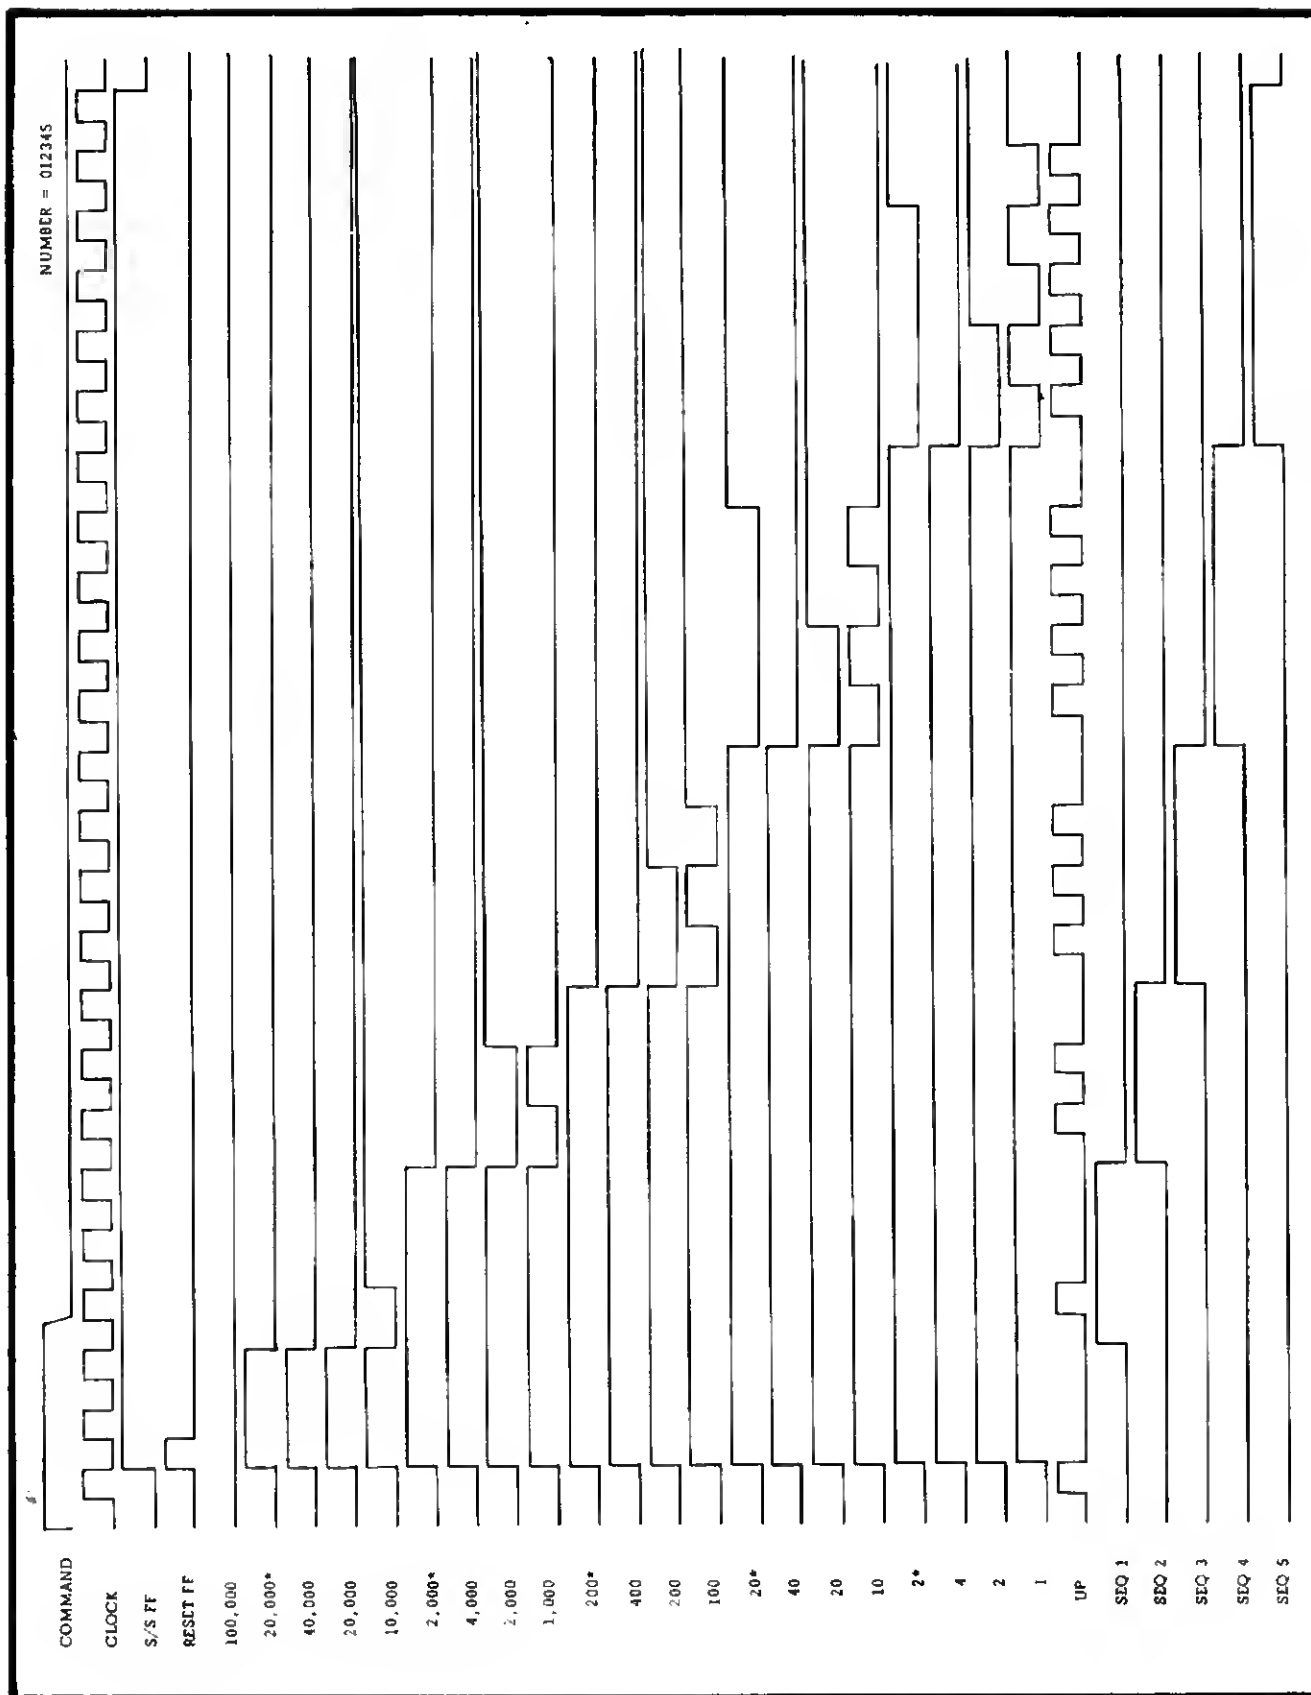
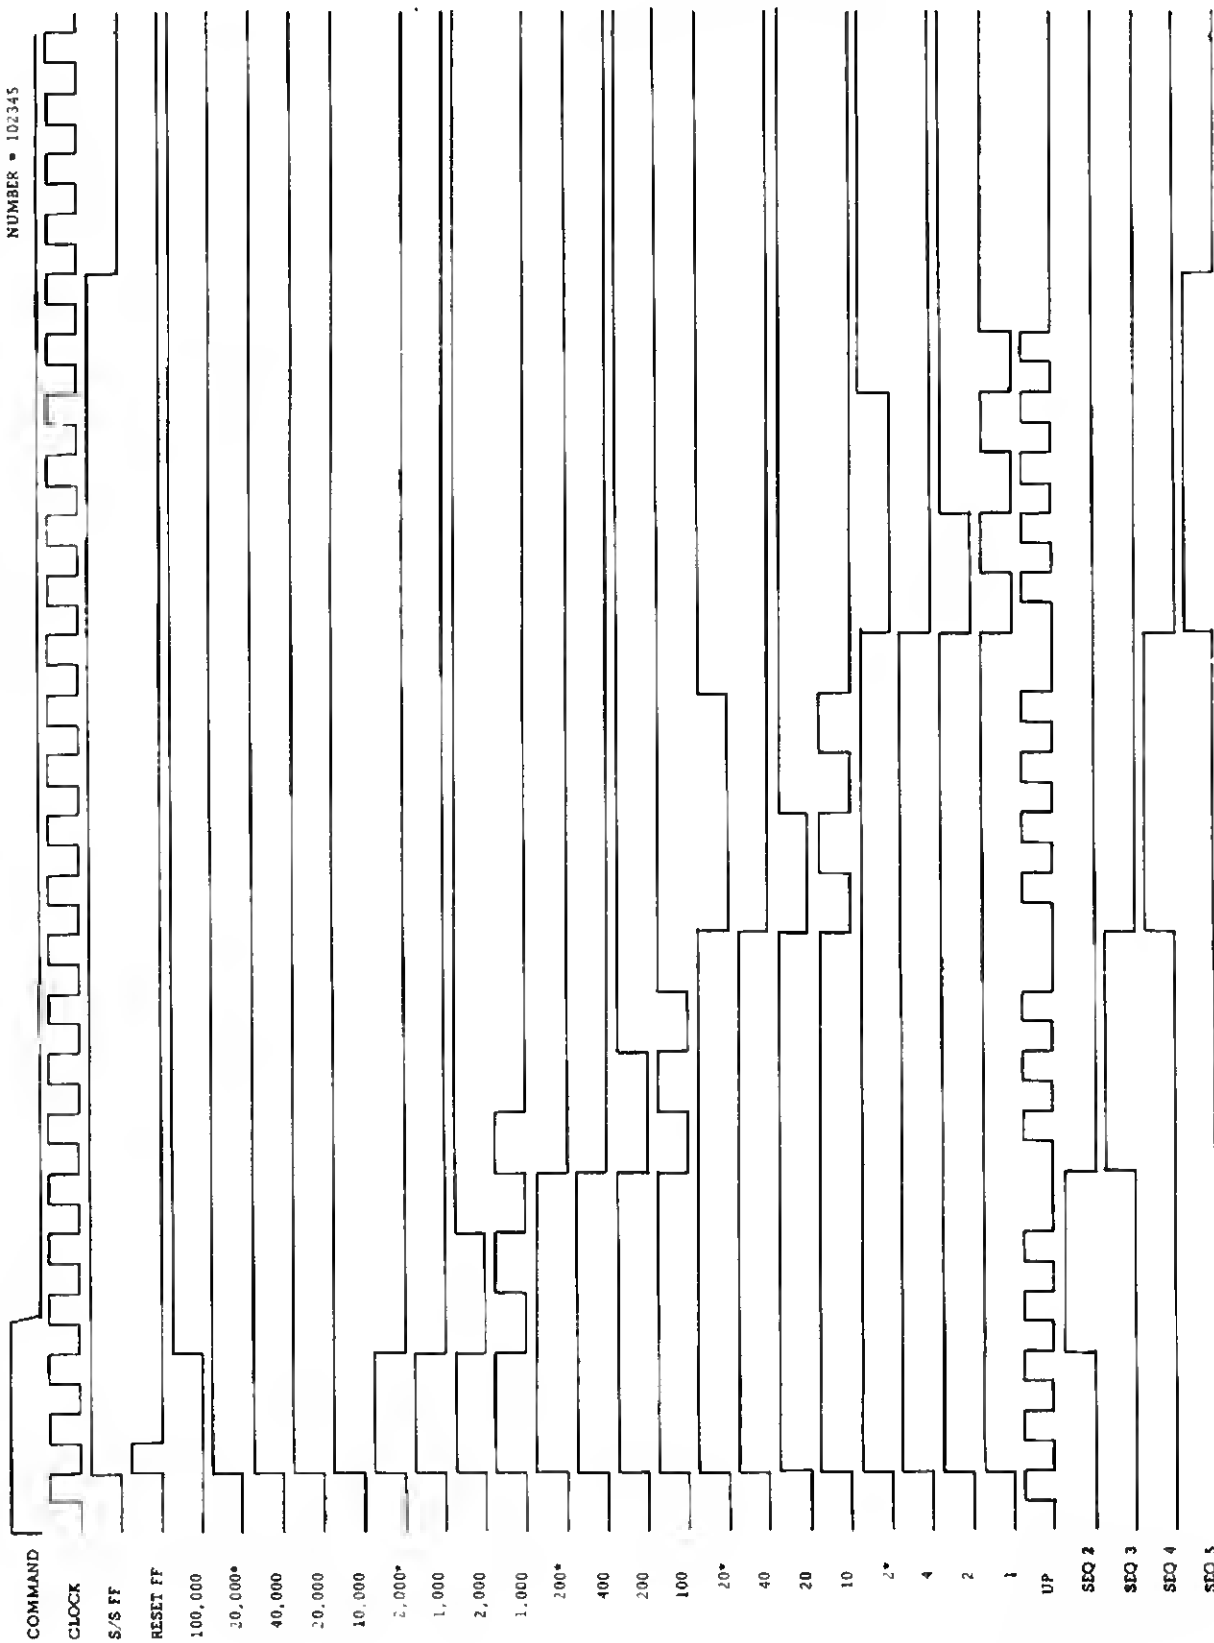

Figure 4.7. Model 5500 Timing (Without Overrange)
Figure 4.8. Model 5500 Timing (With Overrange)
4.60. In S1, the 10K Decade is "dropped" (each flip-flop "off"). The Decades are now set to 09999. If the resulting DAC current is less than the input current, the Null Detector causes the generation of UP at the Trigger flip-flop. The 10K Decade now counts up on each clock pulse until DAC current becomes equal to or greater than the input current. This condition is indicated by an UP from the Null Detector. The Sequencer then advances to S2 and the 1000 Decade is set to zero. If DAC current is less than the input current, the 1000 Decade is counted up in the same manner as the 10K Decade. This is repeated for each succeeding Decade. At the end of the S5, during which the 1 Decade is counted up, the Start/Stop flip-flop is turned off. At this time, the state of the Decades represents the digital value of the input signal and the conversion is complete. This operation is illustrated in the timing diagram of Figure 4.7. In the illustration the input is 012345. Figure 4.8 shows the timing with over-range.